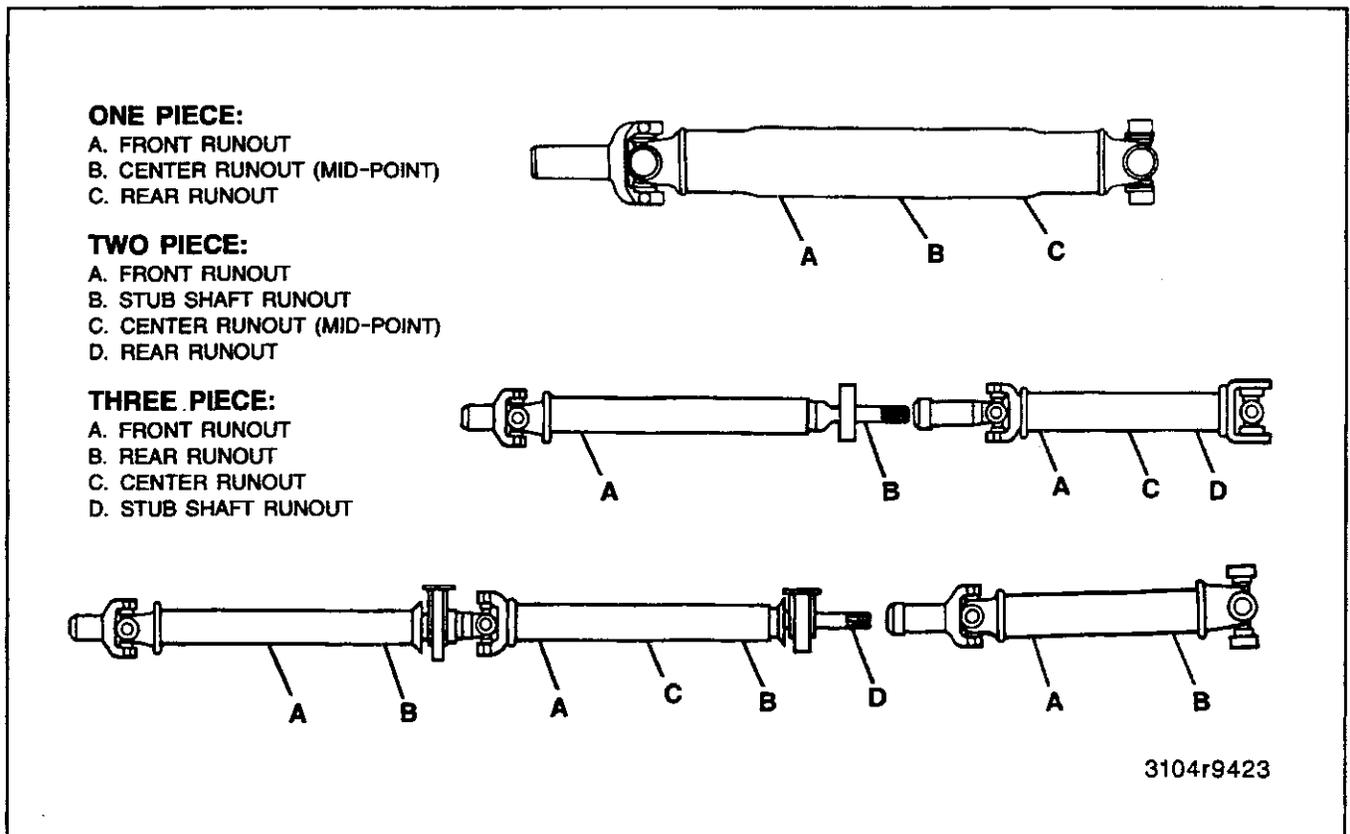

Figure 7—Propeller Shaft Runout Check Points
4. With the transmission in neutral, hand rotate one wheel or the axle pinion flange or the transmission yoke and take the necessary dial indicator readings on the propeller shaft. Record the readings. On models having a two-piece driveline, measure the rear propeller shaft runout (figure 7).
5. Reference mark the position of the rear propeller shaft yoke to the pinion flange, then remove the rear propeller shaft and measure the front propeller shaft runout on the tube and at the specified location on the splined shaft end (figure 7).